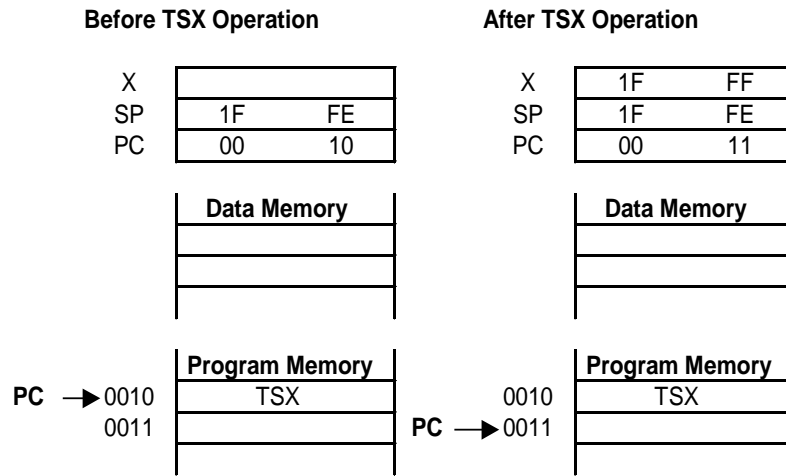

Figure 6.6 - TSX Instruction
**TSX** instruction moves the contents of the stack pointer plus one to the index register so that the index register points directly to the bottom of the stack. In Figure 6.6, SP is 1FFEH. After the execution of **TSX** instruction, index register contains 1FFFH. The MC6802 employs a decrement after write, increment before read stack implementation scheme.